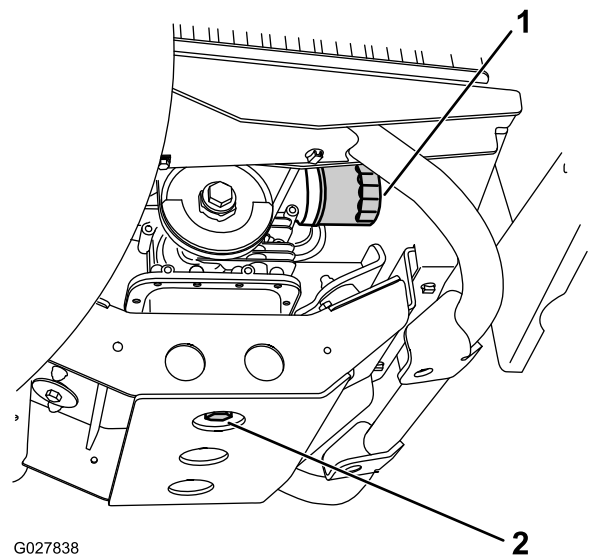

Figure 32
7. Place a drain pan under the drain plug (Figure 32).
8. Remove the drain plug (Figure 32).
9. Install the drain plug and seal (Figure 32) and torque the plug to 45 to 53 N·m (33 to 39 ft-lb).
2. Remove the existing oil filter (Figure 32).
4. Thread the new filter onto the filter adapter until the gasket contacts the mounting plate, then tighten the filter an additional 1/2 to 3/4 turn (Figure 32).